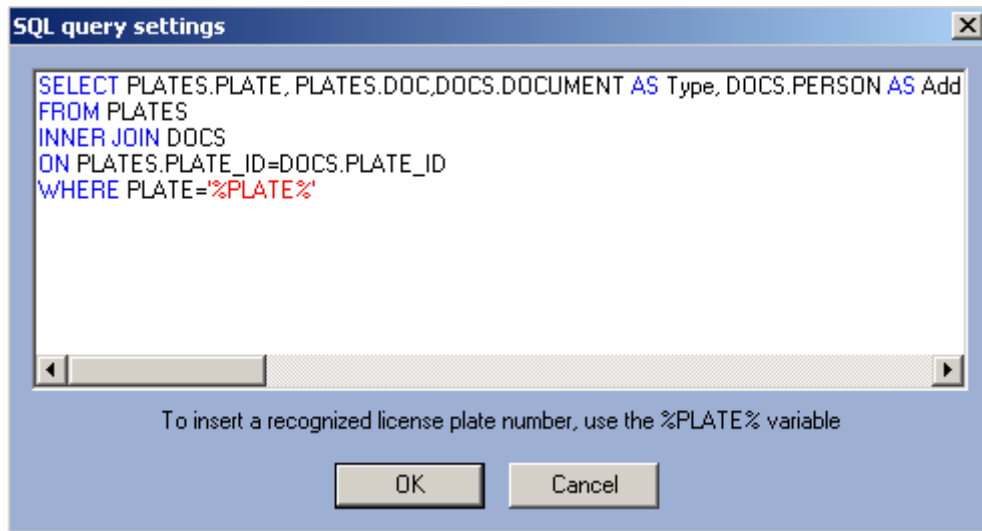
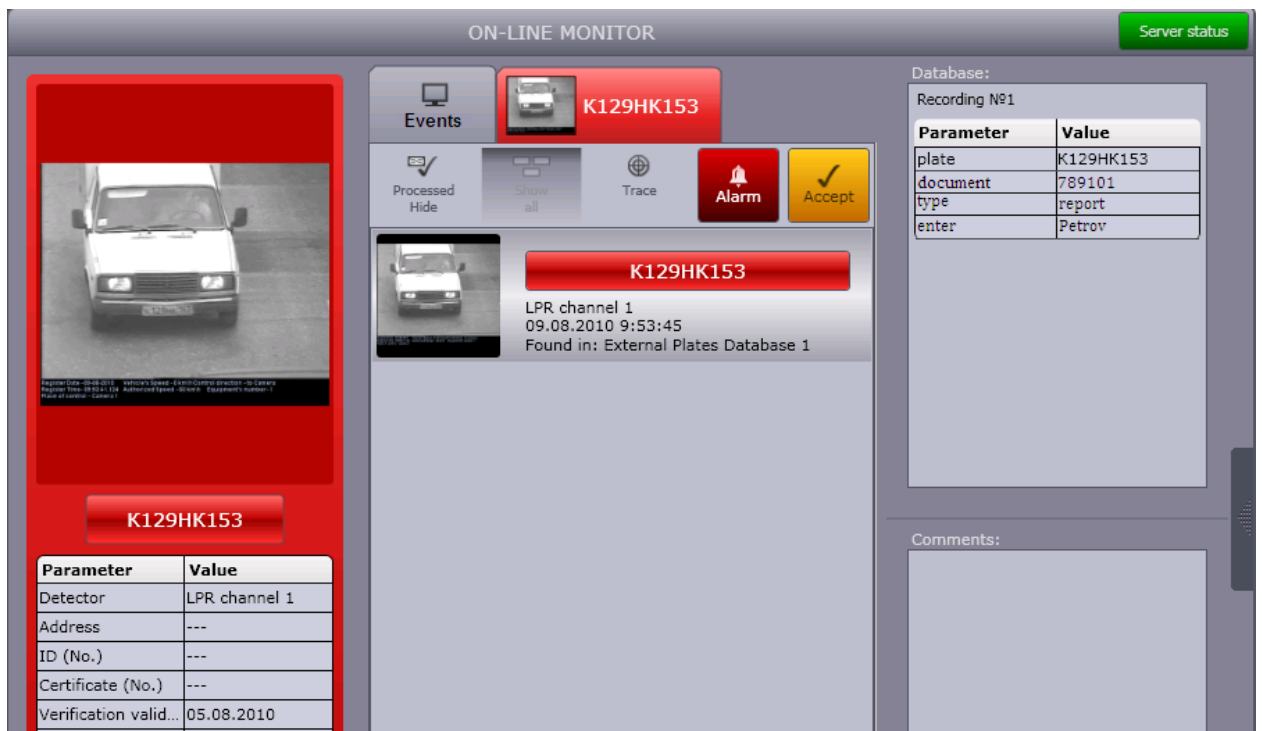

Fig. 7.5-13 SQL- query settings
Fig. 7.5-14 Example of SQL-query search method results
5. A dialog window « SQL- query settings» will be displayed in result (Fig. 7.5-13).
*Note 2. SQL-query, given for example(Fig. 7.5-13),returns the required columns (Table 7.5-3)from the external DB (Fig. 7.5-14) if the plate in this DB coincide with the identified number.*
- To save the changes and close the dialog window « SQL-query settings» click Ok (Fig. 7.5-13).